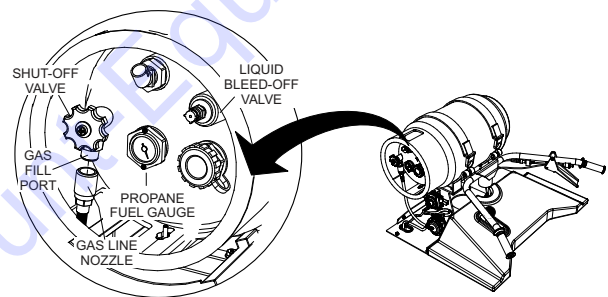

Figure 6. Propane Tank Shut-Off Valve
1. Turn the shutoff valve knob (Figure 6) clockwise to release propane gas.